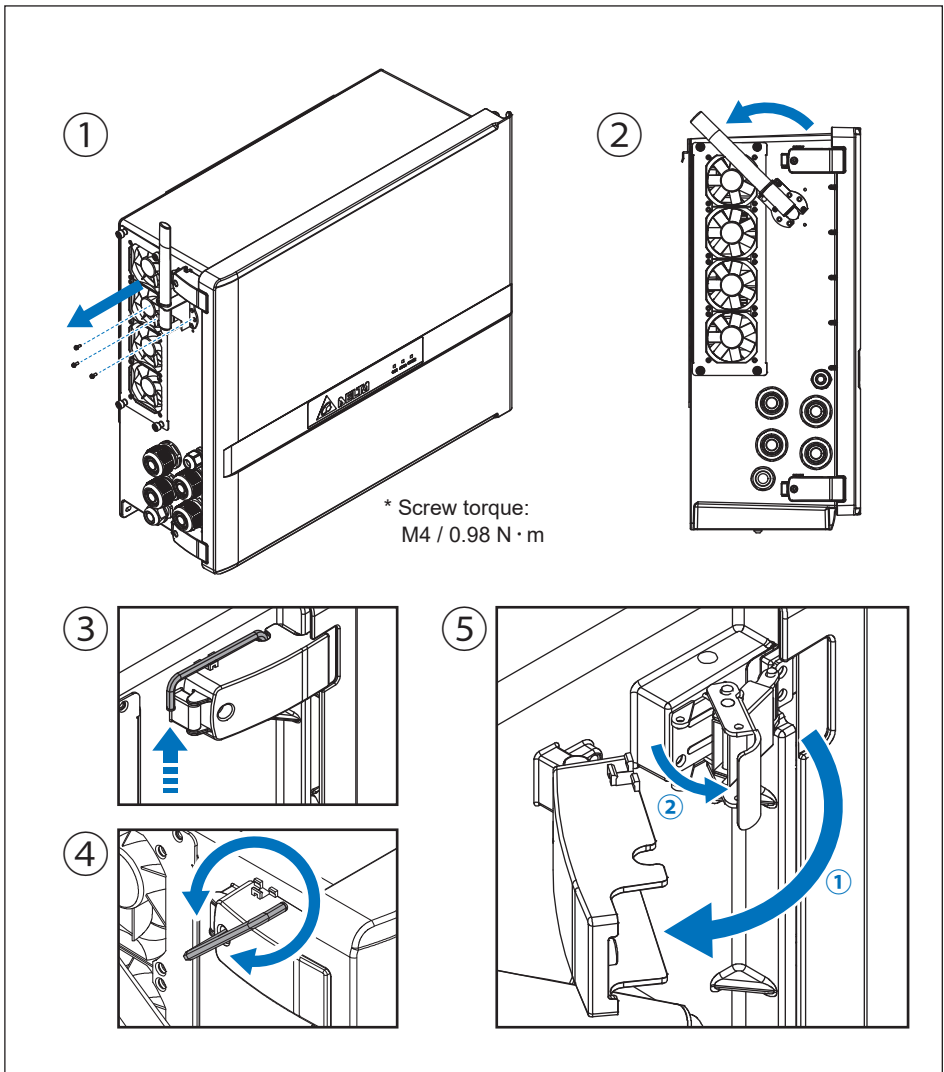

Figure 5-1: Open the door
1. Remove screws of the antenna bracket (**Figure 5-1**).
2. Use the 4mm hexagon wrench to loose the screw of the protection cover, and then release the latch locks (**Figure 5-1**).